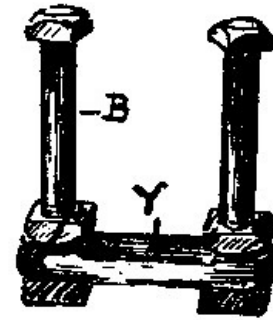

Fig. 47.
**94. Yokes** are used to fasten two straight electro-magnets together to form a horseshoe electro-magnet. The reasons for using them should be understood. Soft iron should be used for yokes and armatures, as this is the best conductor of lines of magnetic force. Sheet-tin is made of thin iron, which is coated with tin. (Try a magnet upon a tin can.) This soft iron is very easily handled, bent, and punched, and is very useful for many purposes. The tin from old tomato cans, cracker boxes, etc., is just as good as any. The method of making your yokes will depend entirely upon the tools at your command. Several ways are given. *Y*, Fig. 47, shows the position of the yoke.
**99. Yoke.** Fig. 47. The yoke, *Y*, is a part of a carriage. This can be bought at a blacksmith's. The holes are already in, but it may require some filing before the nuts of the bolt magnets will fit down firmly.